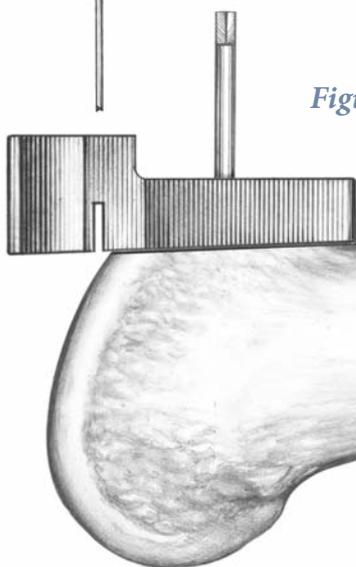

Figure 19
- ▶ Make the distal resection using a .050" (1.25mm) thick sawblade and remove the resection guide (**Figure 19**).